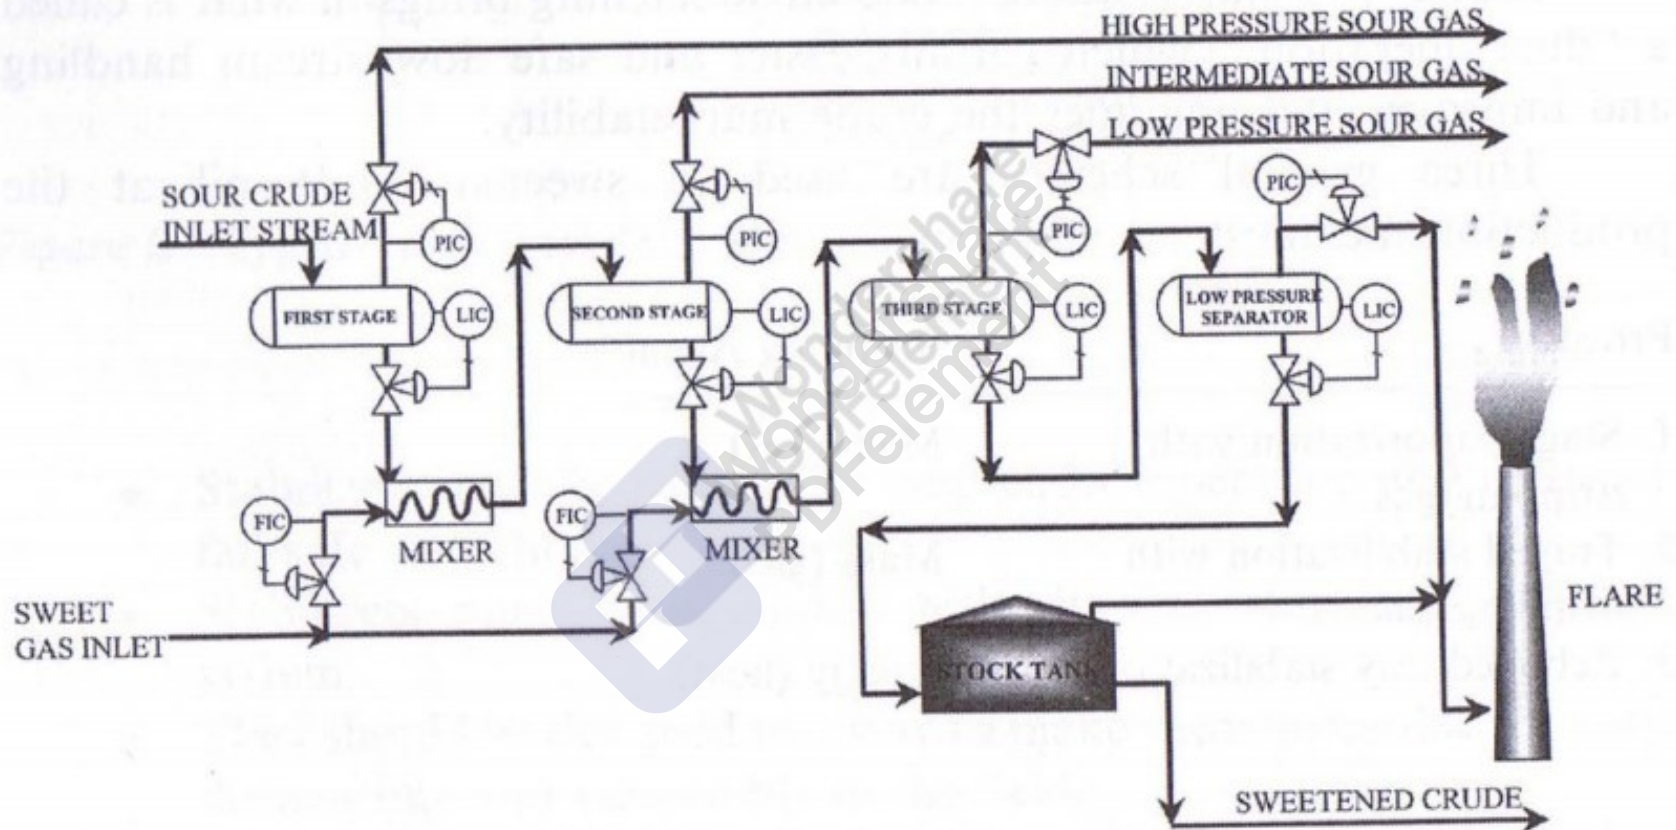

Figure 5 Crude sweetening by stage vaporization with stripping gas.
- Figure 5 represent typical stage vaporization with stripping gas for crude oil sweetening/stabilization.